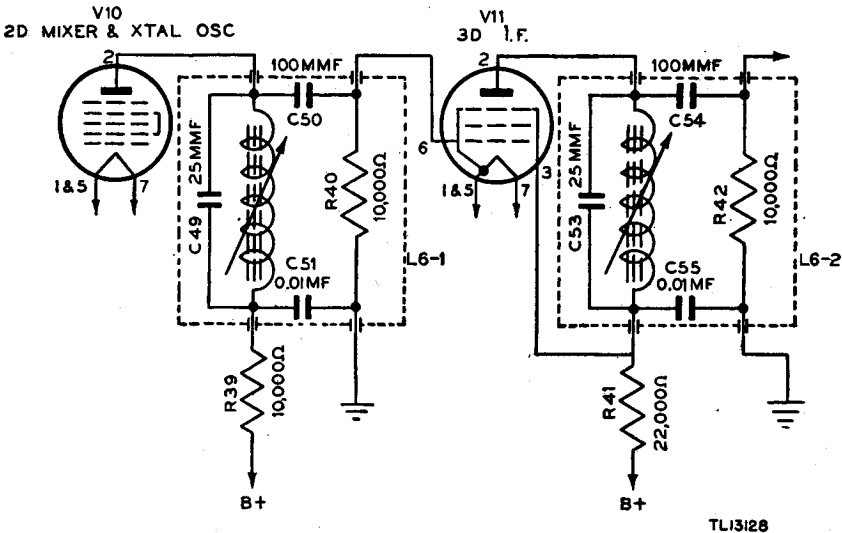

Figure 60. Third i-f amplifier, before circuit change.
(2) The grid-return resistor R40 of the third i-f amplifier tube V11 is connected to the positive filament leg, terminal No. 7, of the second mixer and oscillator tube V10. In this manner the grid bias of the third i-f amplifier tube V11 is reduced from a minimum of 1½ volts, which increases the amplification of the stage. Figure 60 shows the circuit of the third i-f amplifier before the change was made. The above changes also apply to Order No. 29316-Phila-44-01.